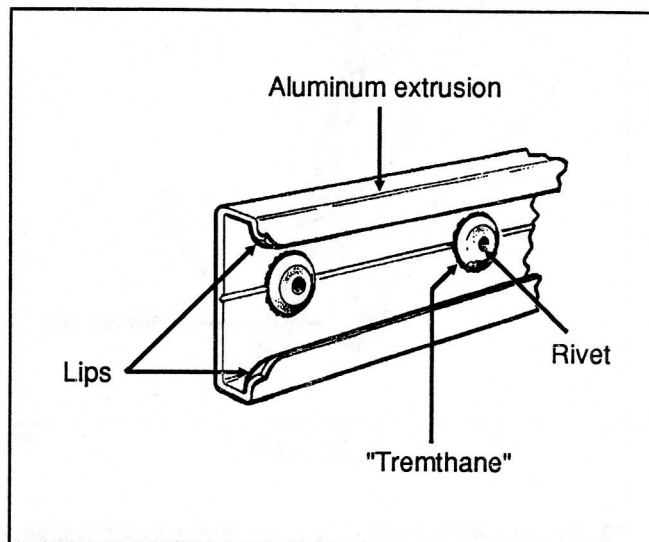

Figure 1
- Apply a coat of "Tremthane" on the rivets. See figure 1.
23. Using a screwdriver, spread lightly each rear lip of the aluminum extrusions to ease sliding of vinyl moldings. See figure 1.